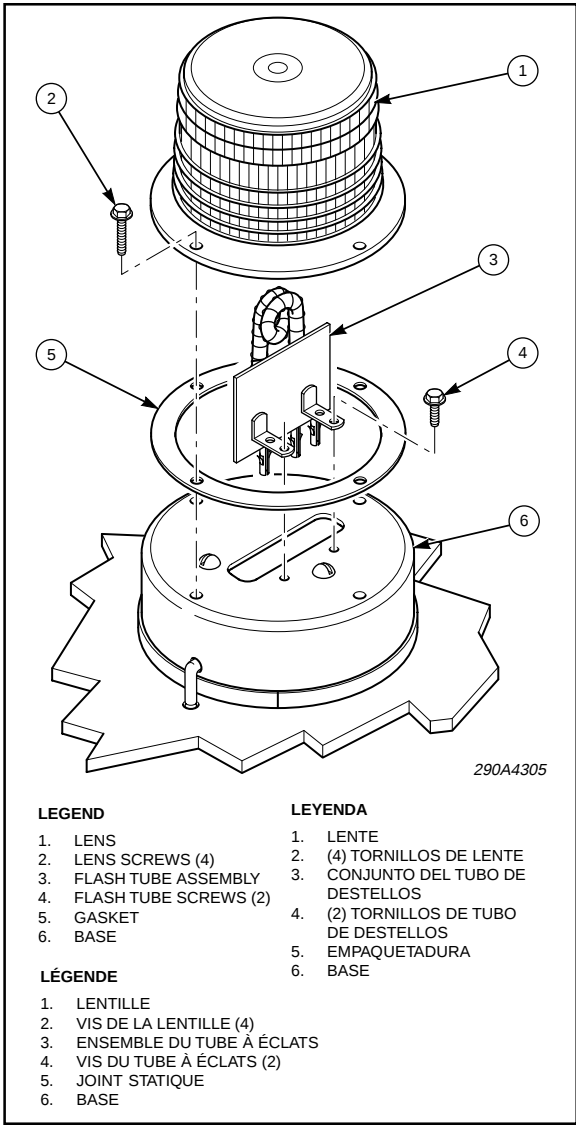

Figure 2. / Figura 2. / Figure 2.
D. Grasp the flash tube by its printed circuit board and pull it off of the pins, using a gentle “rocking” motion. See figure 2. Install a new flash tube. Secure the flash tube assembly to the base using the previously removed screw. Ensure that the O-ring seal rests flat on the base (see figure 2) and reassemble the light.